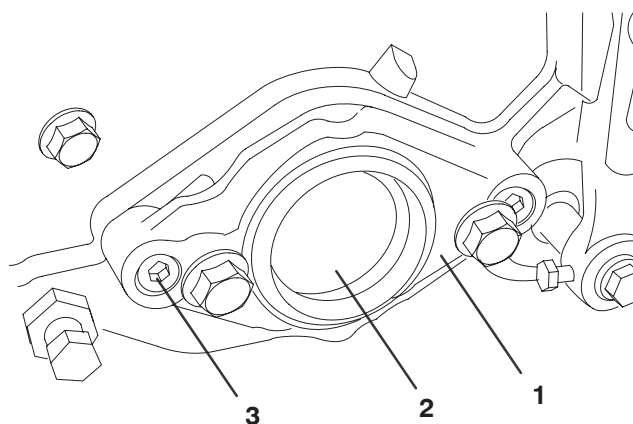

Figure 14
- B. On right end of cutting unit, remove plastic plug from bearing housing (Fig. 14).
- C. Remove the 2 allen head screws securing the motor mount to the right end of the cutting unit. Remove the motor mount (Fig. 14).